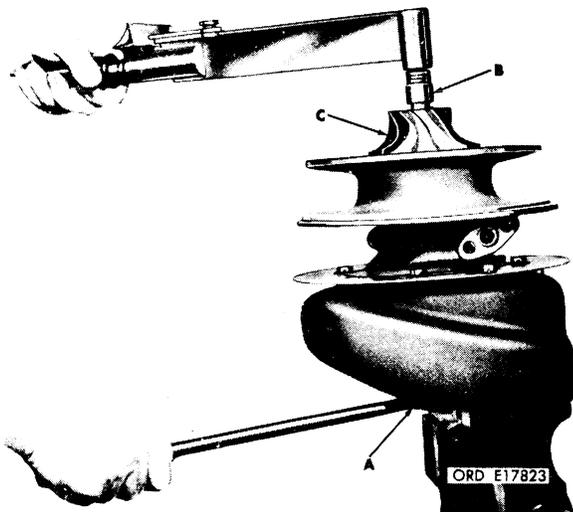

FIGURE 18. REMOVING COMPRESSOR WHEEL LOCK NUT.
- (1) Refer to figure 18: Position eight point, 3/8-inch socket wrench (A) on square extension of shaft and turbine wheel. Position 3/4-inch socket wrench (B) on compressor wheel lock nut. Hold wrenches firmly to prevent slippage, and possible damage to wheel blades (C). Remove compressor wheel lock nut.